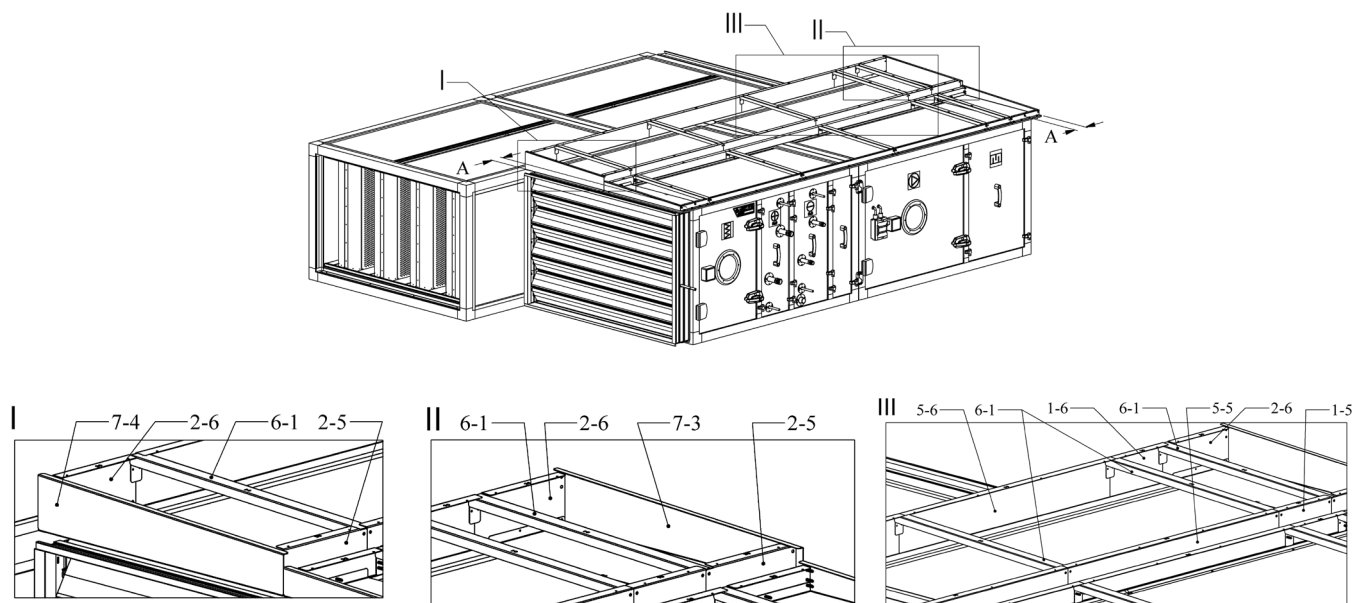

Figure 7.3
5. Connect longitudinal edge supports 2-3, 2-4 to the rear supports 7-3, 7-4 and 6-1-transverse supports using self-taping screws supplied with the unit as shown in Figure 7.3 (I and II).
6. Connect the longitudinal supports 1-5, 1-6, 3-5, 3-6, 4-5, 4-6 or 5-5, 5-6 to each other (depending on the length of the unit) with 6-1-transverse supports using self-tapping screws supplied with the unit and connect end-to-end edge supports 2-5, 2-6 as shown in Figure 7.3. (III).
7. The combined entire frame of the details must be centered according to the length of the unit, the distance A must be the same on both sides as shown in Figure 7.3. A distance can be between 50 – 150 mm.